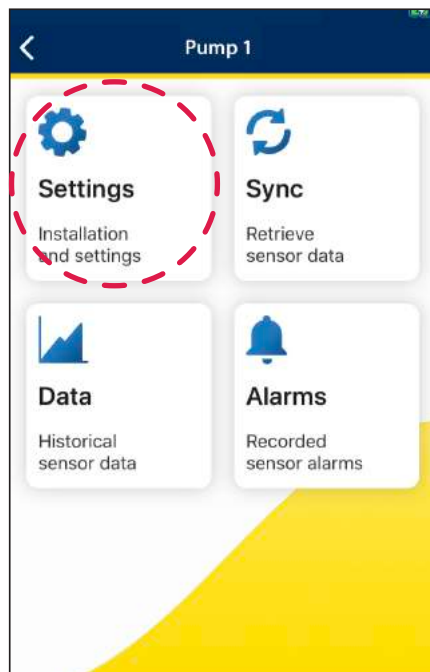

Figure 32
1. Select **Settings** (see figure 32).